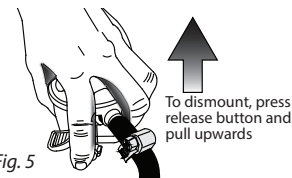

Fig. 5
5. To replace the cylinder, turn the lever to **OFF** position, dismount it by pressing the release button and pull off the regulator vertically (See Fig. 5).